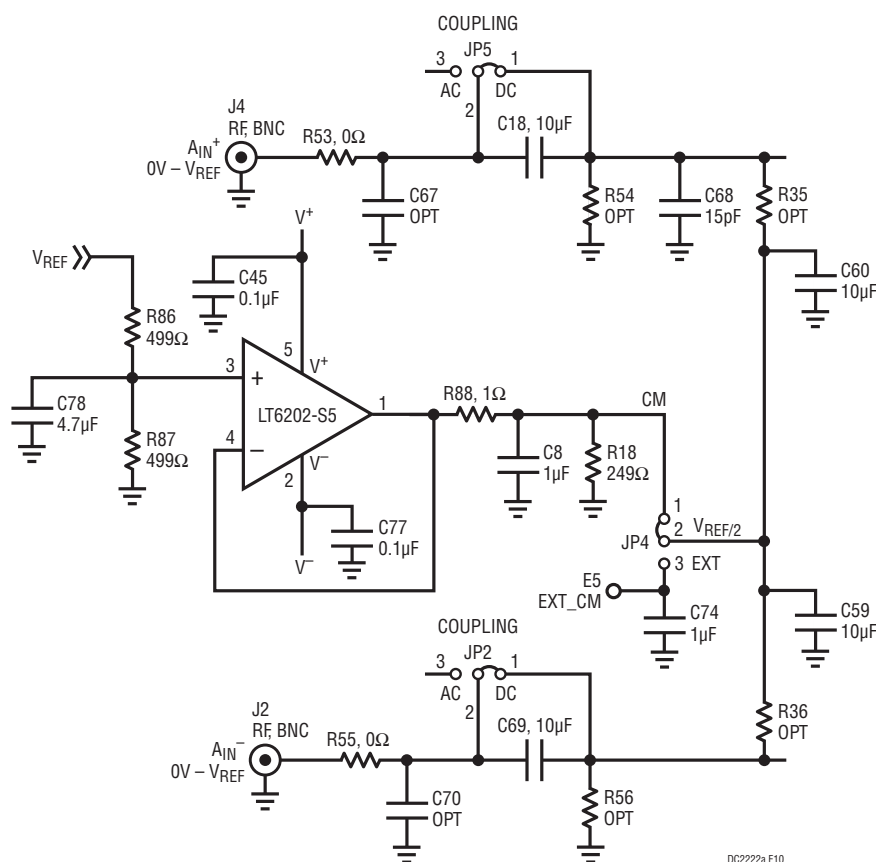

Figure 10. DC2222A Input Coupling
**JP4:** CM sets the DC bias for  $A_{IN}^+$  and  $A_{IN}^-$  if the inputs are AC coupled. To enable AC coupling, R35 and R36 ( $R = 1k$ ) shown in the schematic of Figure 10 must be installed. Installing these resistors will degrade the THD of the input signal to the ADC.  $V_{REF}/2$  is the default setting. If EXT is selected the input common mode voltage can be set by driving terminal E5 (EXT\_CM).